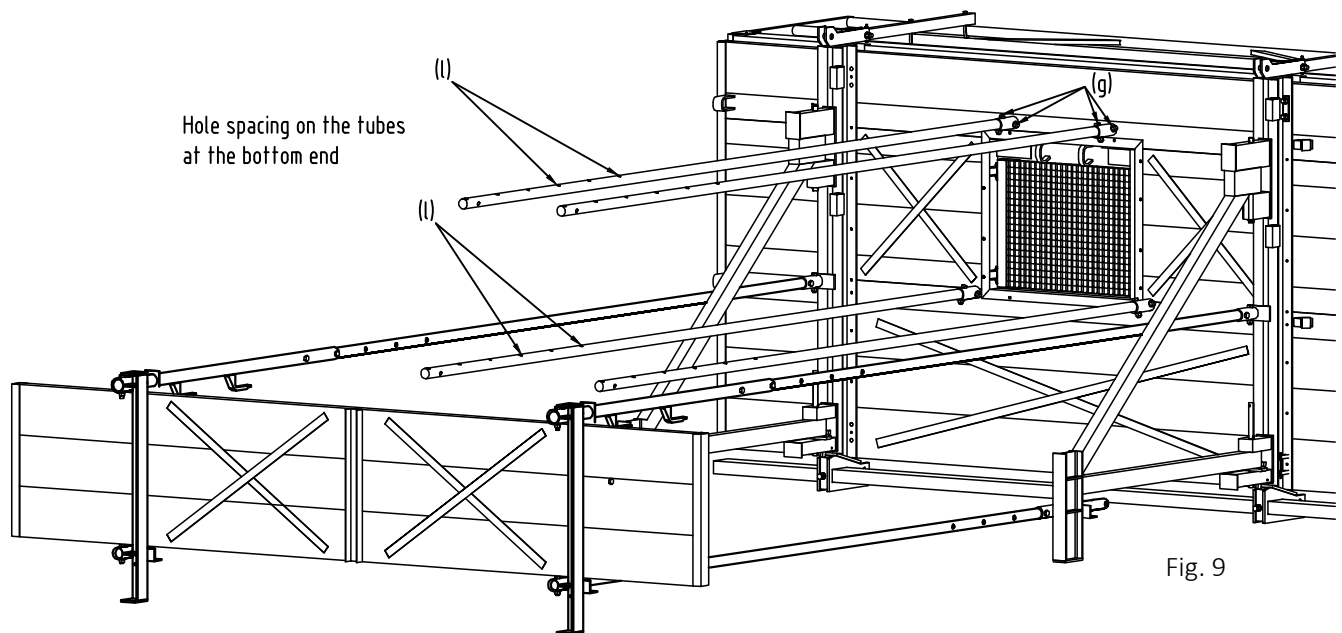

Fig. 9
- Fasten tubes to brackets each with 2 bolts M16x80 (g), paying attention to the hole spacing (see Fig. 9).